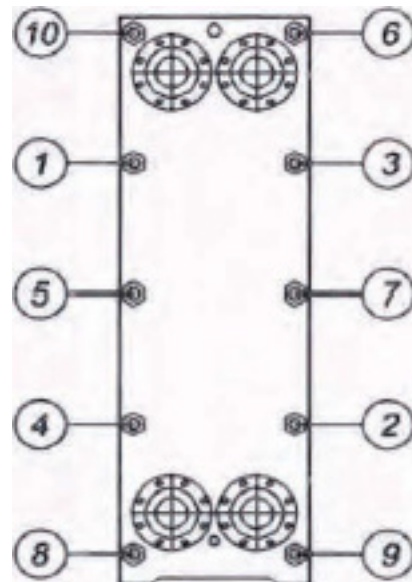

Figure 4.4 Example of Manual Tightening Sequence
- 3. Tighten the plate pack using diagonally opposite tie rod pairs, in a sequence similar to that given in Figure 4.4 below. Ensure during closing that the fixed and mobile heads are kept parallel to each other to within 1/16" to 1/32".